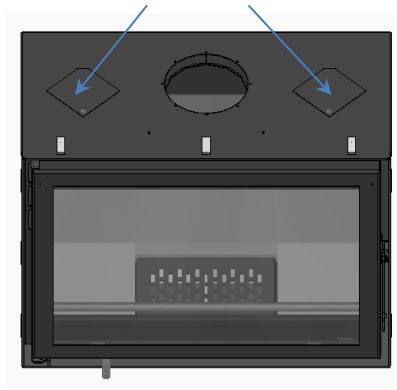

Figure 14 - Outside air connection
* In the upper part of these equipment's there are 2 exits (corresponding to a diameter of 100 mm each), Figure 14, which can be used by removing the covers and adapting ducts for conducting the hot air to other rooms.